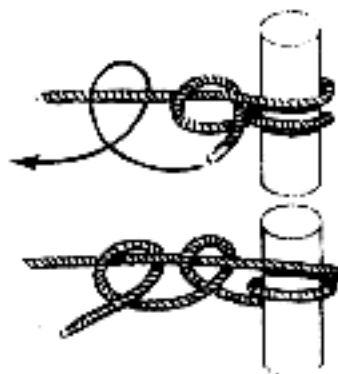

Figure 10-4. Round turn w/2 half-hitches
(2) Round Turn with two half hitches - Used to tie the end of a rope to an anchor, and it must have constant tension. Two wraps that do not cross, secured by two half hitches on the standing part of rope. More than six inch tail remaining. Used with tension applied at all times (figure 10-4).